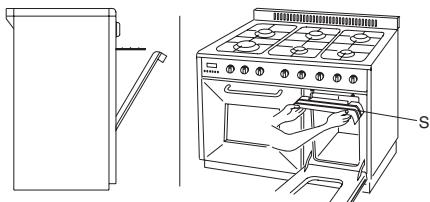

fig. 10
For food that releases a lot of moisture and/or fat, we recommend that the door of the small oven is left slightly ajar. Fit the knob protection plate (S) (see fig. 10) above the oven and allow the door to lean against this. If the door is left open, the kitchen unit's covering must be able to withstand temperatures of at least 90 °C.